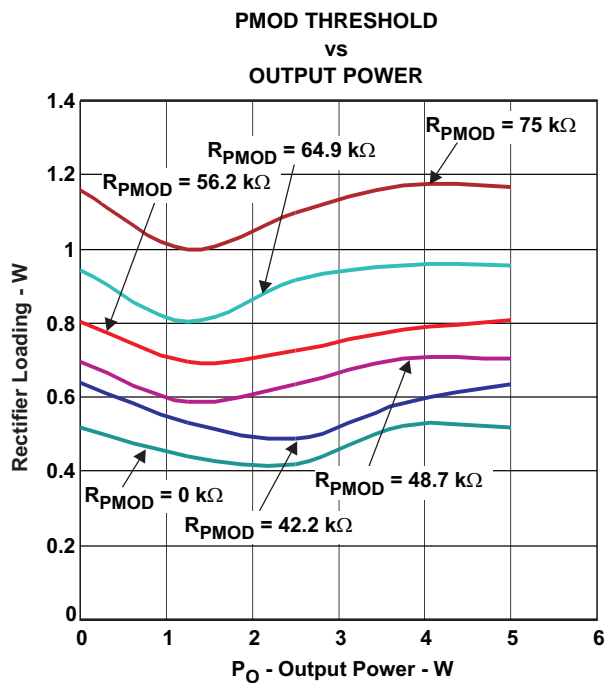

Figure 2.
(1) Threshold numbers are approximate. See Figure 2.
**Note:** The WPC Specification V1.0 does not define the requirements and thresholds for the PMOD feature. Hence, metal object detection may perform differently with different products. Therefore, the threshold setting is determined by the user. In most desktop wireless charger applications, a PMOD threshold setting of 0.8W has shown to provide acceptable results in stopping power transfer and preventing small metal objects like coins, pharmaceutical wraps, etc. from becoming dangerously hot when placed in the path of the wireless power transfer. Figure 2 depicts PMOD performance measured on a bq500210 EVM with a bq51013 EVM. The parasitic metal loss is emulated by loading the output of the rectifier in the bq51013 EVM.